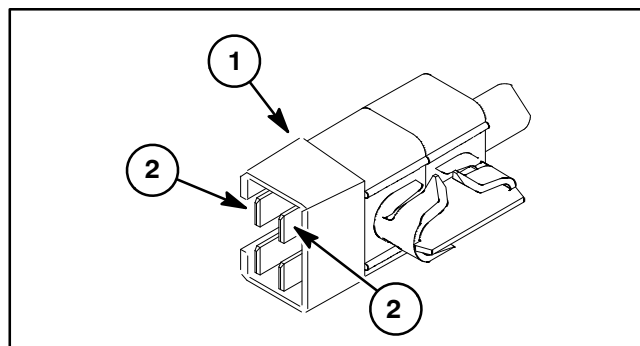

Figure 23
2. Remove four (4) screws and carefully slide shift bracket assembly from front of seat base to gain access to reverse switch.
4. With the use of a multimeter (ohms setting), check that the normally open switch contacts (Fig. 23) do not have continuity when the switch plunger is extended. The contacts should have continuity when the switch plunger is fully depressed.
5. When testing is complete, connect wire harness connector to switch. Slide shift bracket into seat base and secure with four (4) screws.